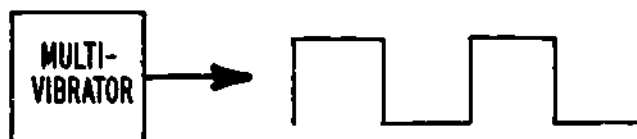

Figure 1
1. In your previous study of oscillators you learned about oscillators that provide sine-wave outputs. Mention was also made of oscillators which provide outputs which are not sinusoidal. You studied one such oscillator called a multivibrator in Module 23. Recall that the output from a multivibrator circuit is a square or rectangular wave form. Figure 1 shows the block diagram for the multivibrator and its output waveform.